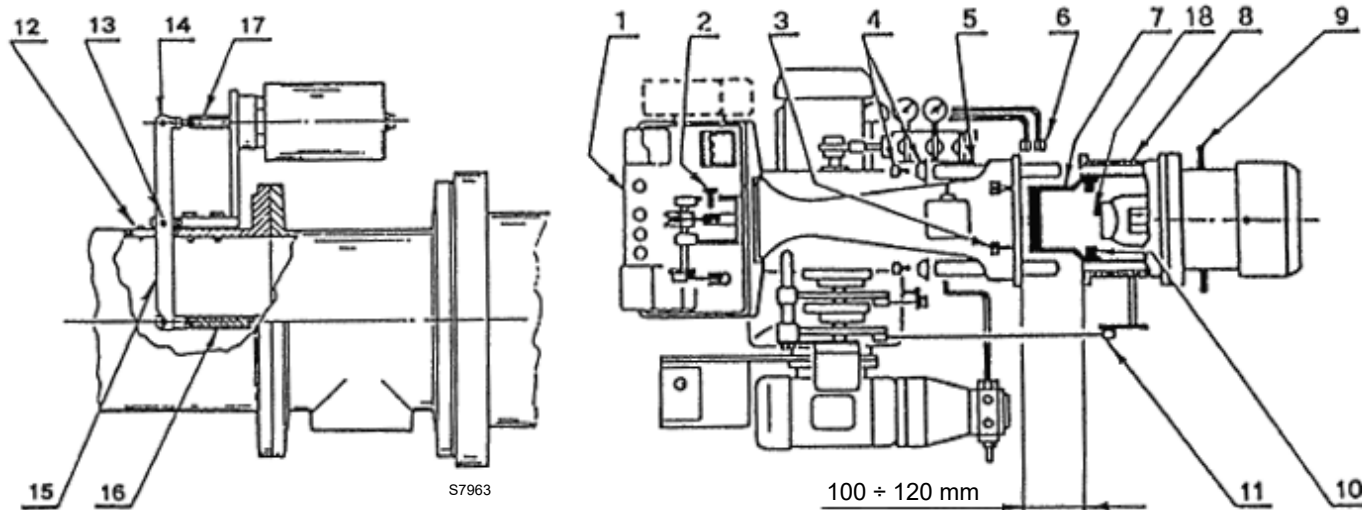

Fig. 11
Provide an adequate lifting system (Fig. 11).
- remove the cover from bracket 1)(Fig. 11), pin 2), stops 4) and screws 3);